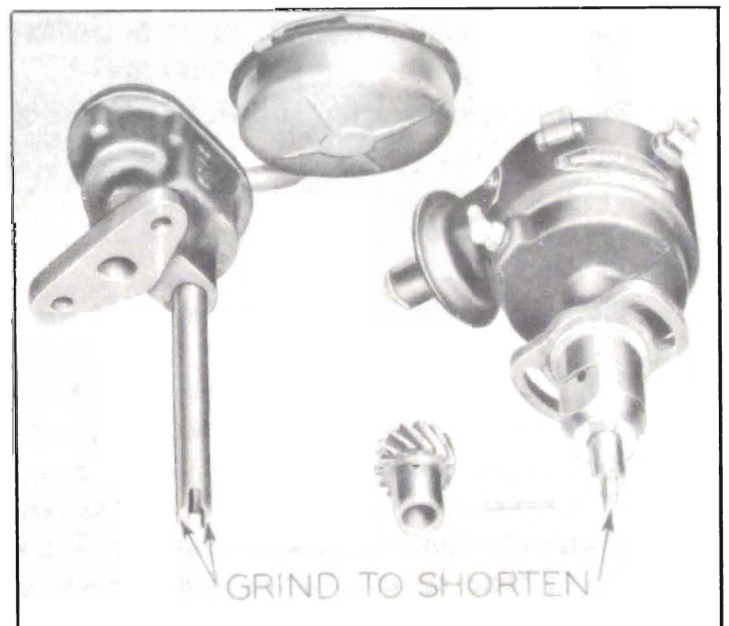

Figure 2-46—Parts to be Ground for Shaft End Clearance
10. If tightness still exists, it may be due to the limits to which the pump body was machined, or to a rebuilt distributor assembly, or both. In this case it will be necessary to remove pump assembly and the distributor and grind a slight amount from ends of pump and distributor shafts to provide a slight end clearance. See figure 2-46. The distributor gear must be removed, and when reinstalled both ends of retaining pin must be securely riveted. See paragraph 10-51 for removal and proper installation of distributor.